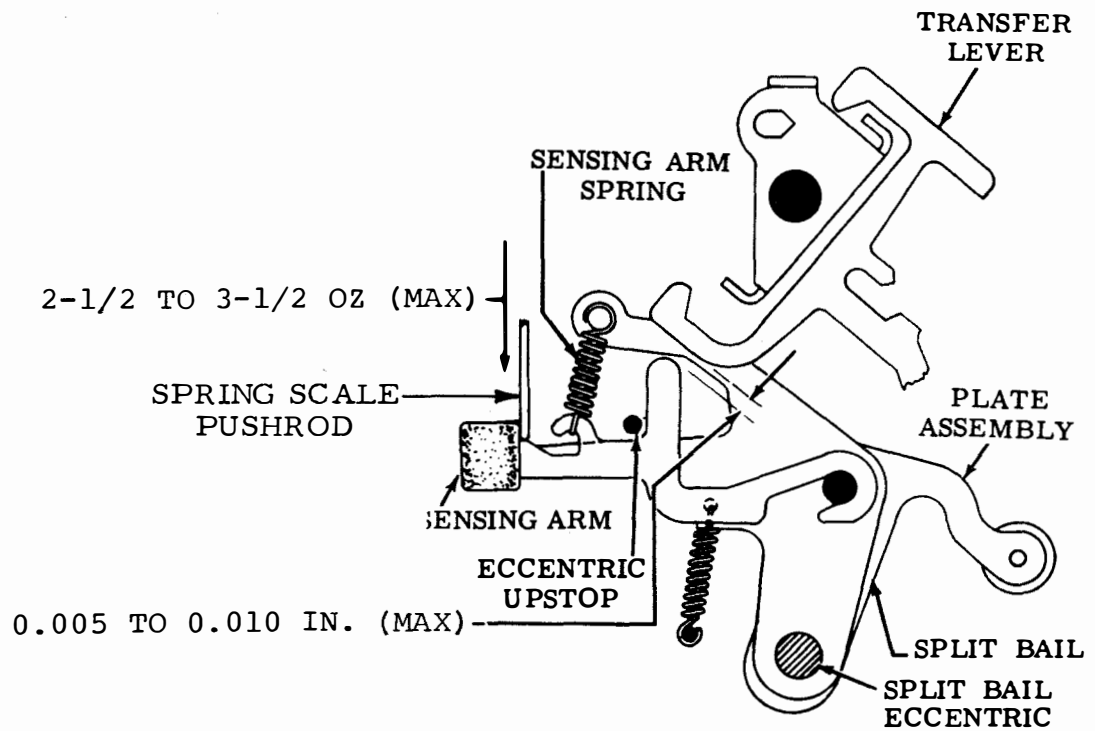

Figure 6-516. Sensing Arm - Transfer Lever Alignment, Sensing Arm Spring and Split Bail Eccentric, Front View
- (a) Refer to Figure 6-516.
(9) Sensing Arm Spring. Adjust as follows:
(10) Split Bail Eccentric. Adjust as follows: